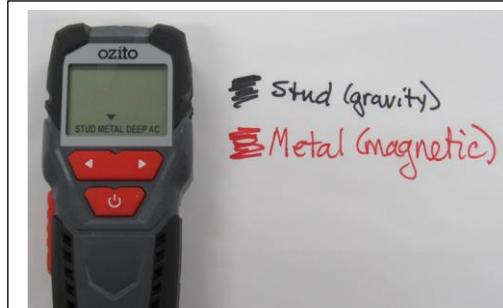

Figure 2: Create a key to indicate what setting has provided the results.
2. Place the stud finder in the calibration corner and use the marking pens to create a key. The 'stud' setting simulates a gravity survey and the 'metal' setting simulates a magnetic survey (Figure 2).